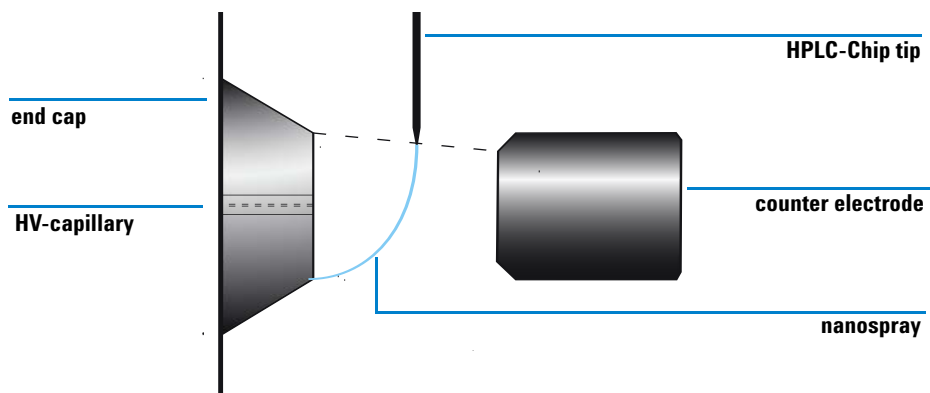

Figure 26 Good nanospray under highly aqueous conditions
- Turn the thumb wheel on the left bottom side of the Chip Cube. Move the HPLC-Chip tip further towards the counter electrode until the spray looks like Figure 26 on page 67.